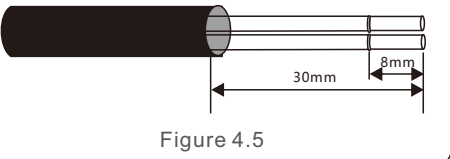

Figure 4.5
a. Strip the insulation and shield to a suitable length. Use diagram below as a guide. (see Figure 4.5).